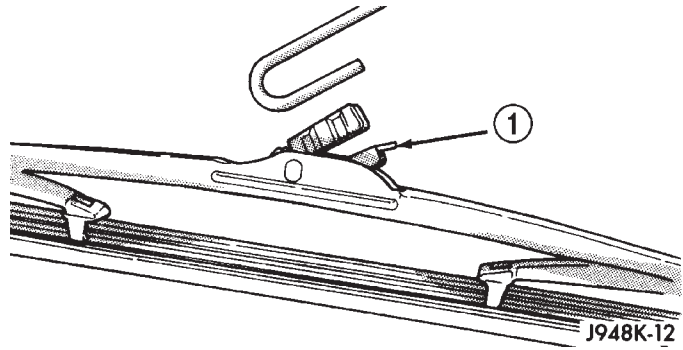

Fig. 7 Wiper Blade Remove/Install - Typical
(1) Turn the wiper control knob on the end of the multi-function switch control stalk to the On position. Cycle the wiper blades to a convenient working location on the windshield by turning the ignition switch to the On and Off positions.
(2) Lift the wiper arm to raise the wiper blade and element off of the glass.
(3) To remove the wiper blade from the wiper arm, push the pivot block latch release tab under the tip of the arm and slide the blade away from the tip towards the pivot end of the arm far enough to disengage the pivot block from the hook (Fig. 7).
(4) Extract the hook formation on the tip of the wiper arm from the opening in the wiper blade superstructure ahead of the wiper blade pivot block/latch unit.
(1) Lift the wiper arm off of the windshield glass.
(2) Position the wiper blade near the hook formation on the tip of the arm with the notched retainer for the wiper element oriented towards the end of the wiper arm that is nearest to the wiper pivot.
(3) Insert the hook formation on the tip of the wiper arm through the opening in the wiper blade superstructure ahead of the wiper blade pivot block/latch unit far enough to engage the pivot block with the hook (Fig. 7).
(4) Slide the wiper blade pivot block/latch up into the hook formation on the tip of the wiper arm until the latch release tab snaps into its locked position.
(5) Gently lower the wiper blade onto the glass.